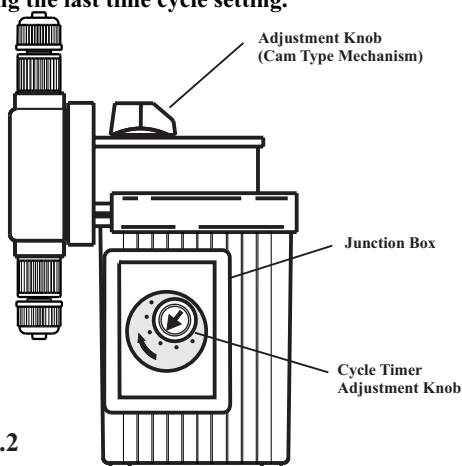

FIG. 5.2
5.2 Adjusting the Pump Output - DELUXE Models (fig. 5.2)